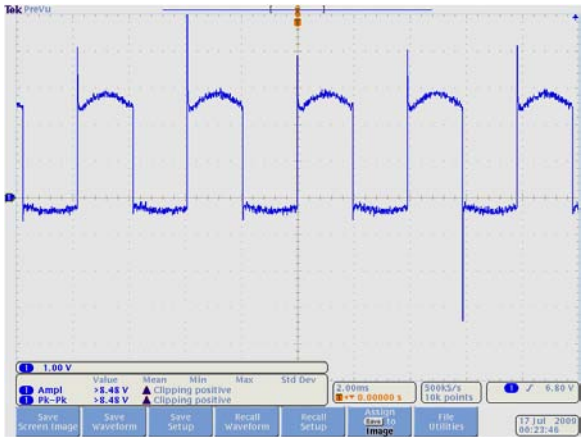
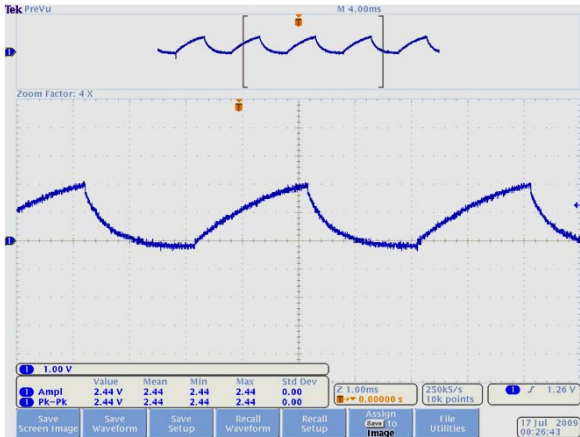

Figure 3.5: Waveform 1
Figure 3.6: Waveform 1 with capacitor
1. Figure 3.5 shows the voltage waveform across the speaker in the completed piano circuit, as measured by an oscilloscope. Look at Figure 3.5 to determine what the period is, calculate the frequency, and then look up the musical note. In order to find the musical note, reference Figure 3.9. You need to find the time scale in the image first, before you can determine the time it takes for one cycle. *Do not forget to put the units.*
Figure 3.6 is the same exact note as Figure 3.5, except with a 100 μF capacitor acting as a low-pass filter. A low-pass filter only passes low frequency signals and reduces the amplitude of high frequency signals. That is why the shape of the waveform has changed so much from the unfiltered musical note. In a way, a capacitor acts like a battery. Although they work in completely different ways, capacitors and batteries both store electrical energy. As current flows into the capacitor, it charges. When current leaves the capacitor, it discharges. This causes the voltage highs and lows to be rounder in the waveform.